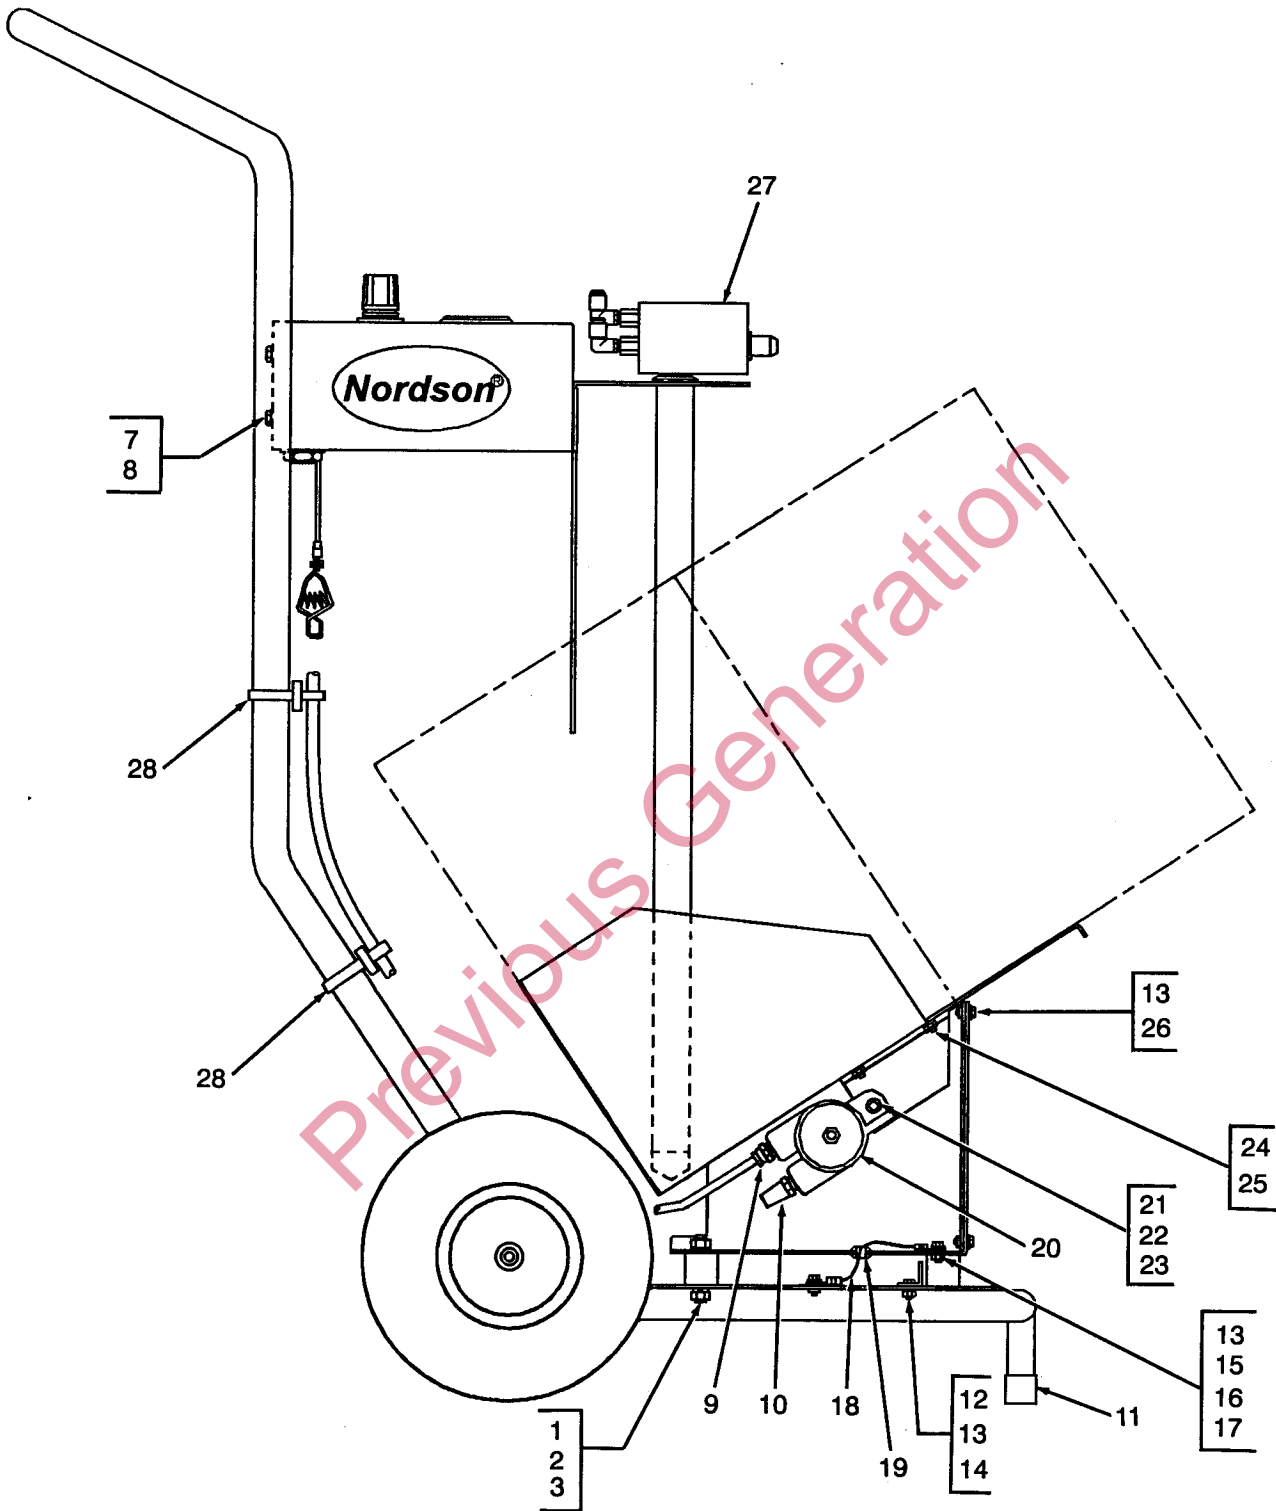

Figure 2 — Vibratory Box Feeder Parts
**Vibratory Box Feeder Parts List****Figure 2 - Side View**